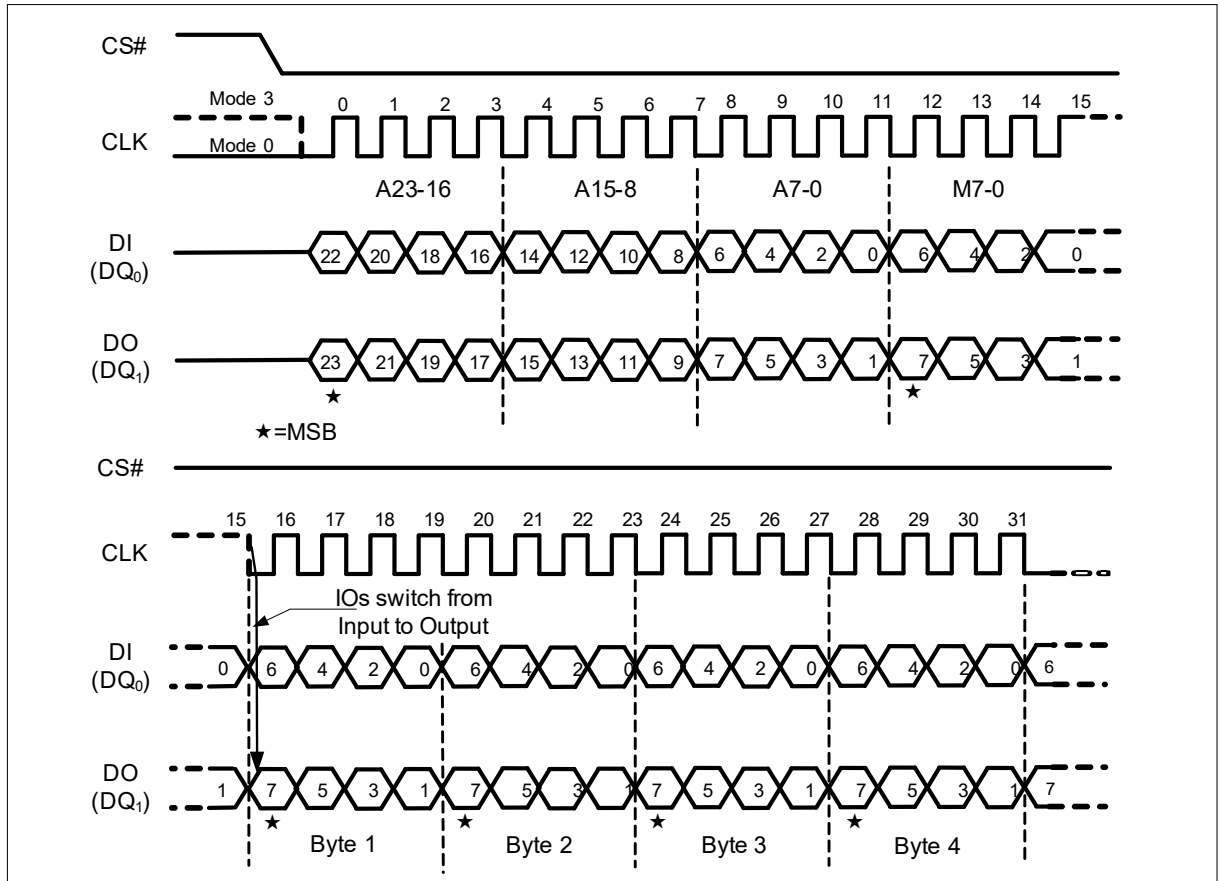

Figure 22 Fast Read Dual I/O Instruction (Previous instruction set M5-4 = 10, SPI Mode only)
If the “Continuous Read Mode” bits M5-4 = (1,0), then the next Fast Read Dual I/O instruction (after CS# is raised and then lowered) does not require the BBh instruction code, as shown in Figure 22. This reduces the instruction sequence by eight clocks and allows the Read address to be immediately entered after CS# is asserted low. If the “Continuous Read Mode” bits M5-4 do not equal to (10), the next instruction (after CS# is raised and then lowered) requires the first byte instruction code, thus returning to normal operation. It is recommended to input FFFFh on DQ0 for the next (8 clocks), to ensure M4 = 1 and return the device to normal operation.